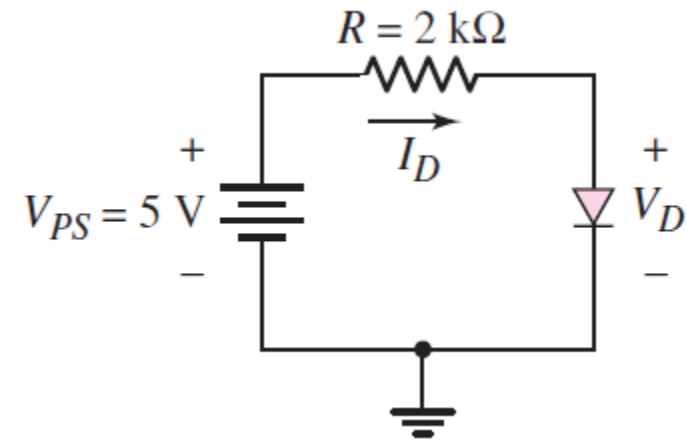

Figure 1.28
- **Objective:** Determine the diode voltage and current for the circuit shown in Figure 1.28.